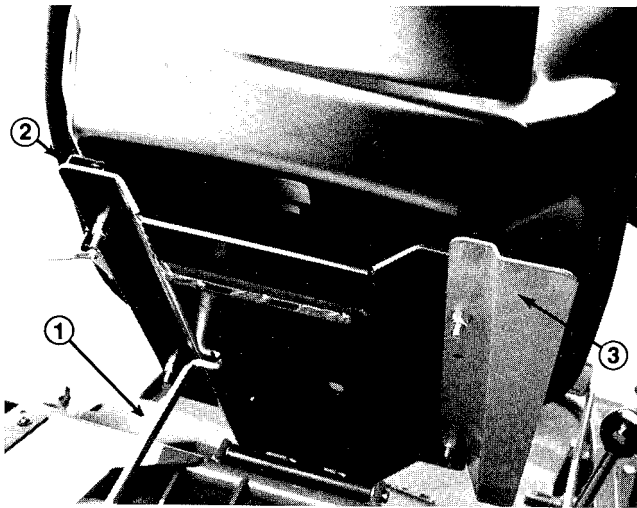

Figure 3
MOUNT SEAT (Fig. 3)
3. Secure seat, seat panel and seat slides to seat support with 5/16–18 locknuts supplied in loose parts. Seat cover to be mounted on right side, positioned as shown in fig. 3.